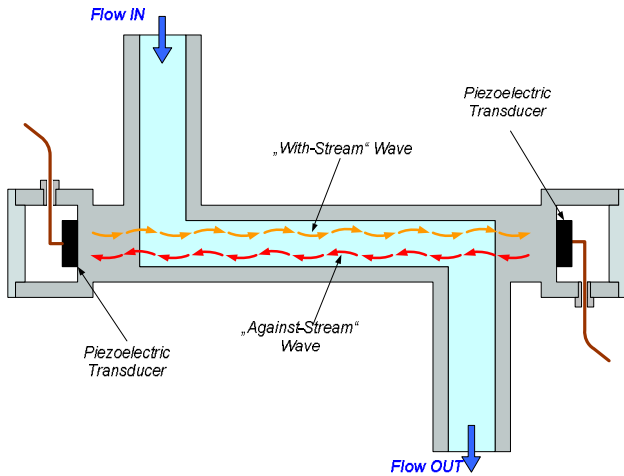

Figure 1: Operating principle of ultrasonic single-use sensor
The *LEVIFLOW*[®] single-use flowmeters are designed for non-invasive flow measurements of high purity fluids. *Figure 1* illustrates the operating principle. Two piezo-electric transducers, mounted in the sensor housing, generate and receive an ultrasonic wave. The two waves are processed by a signal converter. The difference of the transit time of both waves is proportional to the velocity of the fluid. The wet materials of the single-use sensors fabricated from biocompatible (FDA, USP-VI, BSE/TSE and Animal free) gamma sterilizable polypropylene (PP).